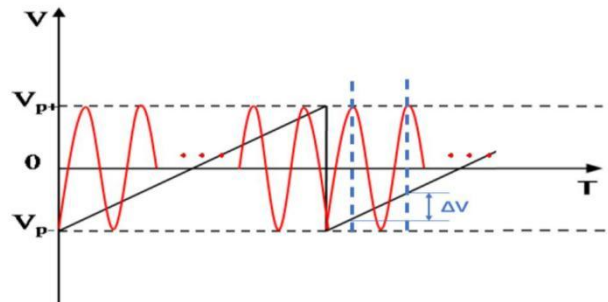

Figure 3-2 Schematic diagram of the detector output signal
- Turn on the light source and signal generator. Apply a sawtooth signal at a typical frequency of 1 kHz to the DUT. The sawtooth peak-to-peak voltage (V_{pp}) should be greater than twice the expected half-wave voltage, so that the detector output (cosine wave) shows at least one full period, as illustrated in Figure 3-2.